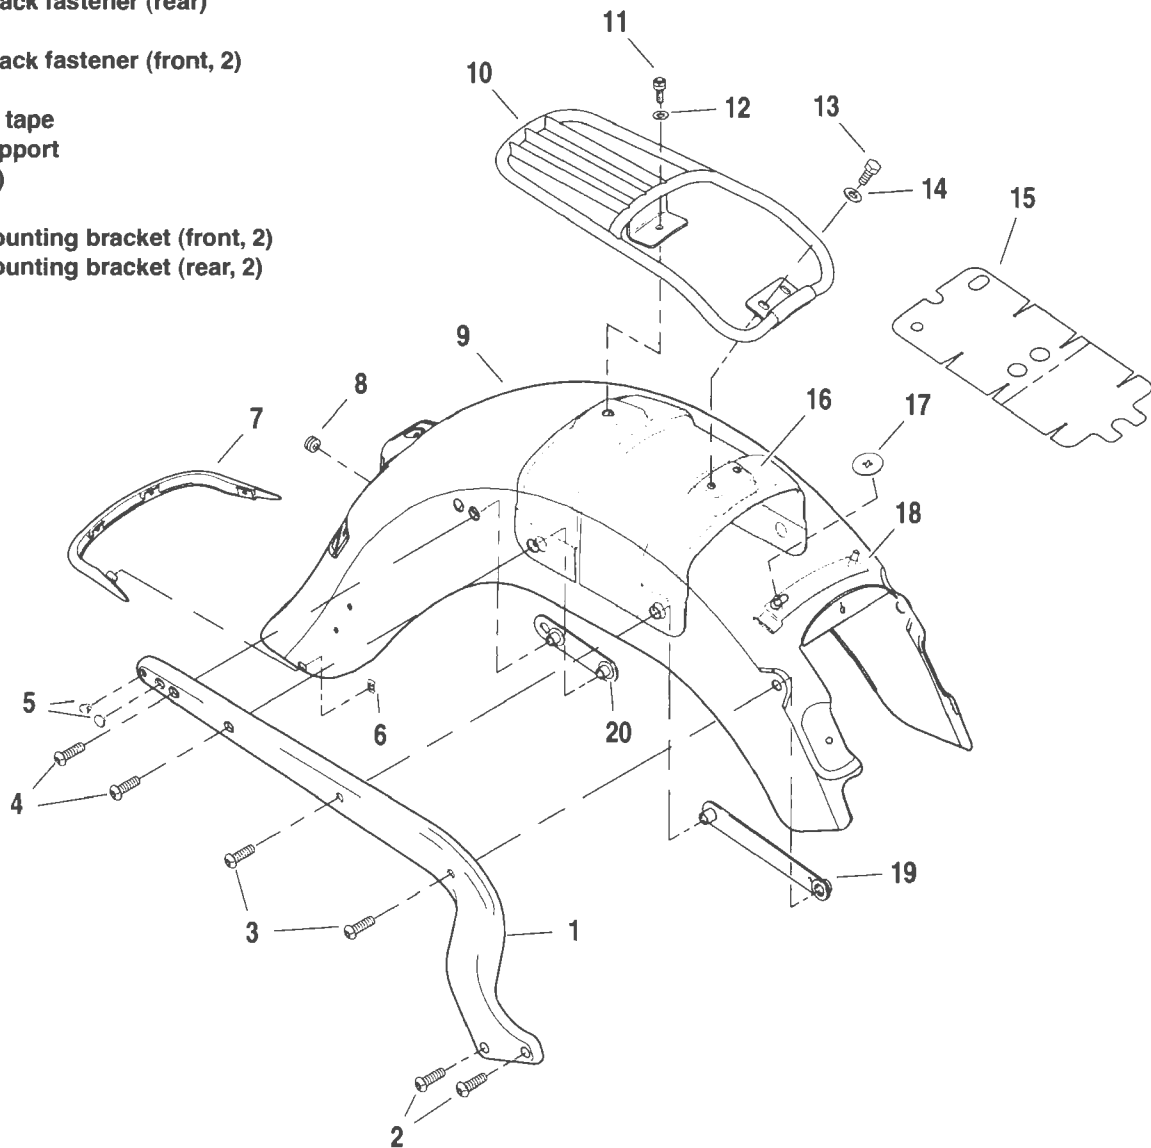

Figure 2-145. Rear Fender: FLSTN
5. See Figure 2-145. Remove fender mounting bracket (19) by removing fender mounting fasteners (3). Insert rods through forward most holes created by fastener removal. Rods will keep fender in place during next step.
6. Remove fender mounting fasteners (2).
1. See Figure 2-145. If rear fender is to be completely disassembled, detach fender supports (1) by removing fender mounting fasteners (4).
2. Remove fender support (16) and fender mounting brackets (20).
- a. See Figure 2-145. Place fender support (16) into position in fender (9).
4. Install fender supports (1) using fender mounting fasteners (4). Snug but do not fully tighten fasteners at this time.
1. See Figure 2-145. Carefully place the fender into position. Install fender supports using hardware and brackets shown. Tighten to 21-27 ft-lbs (28.5-36.6 Nm).